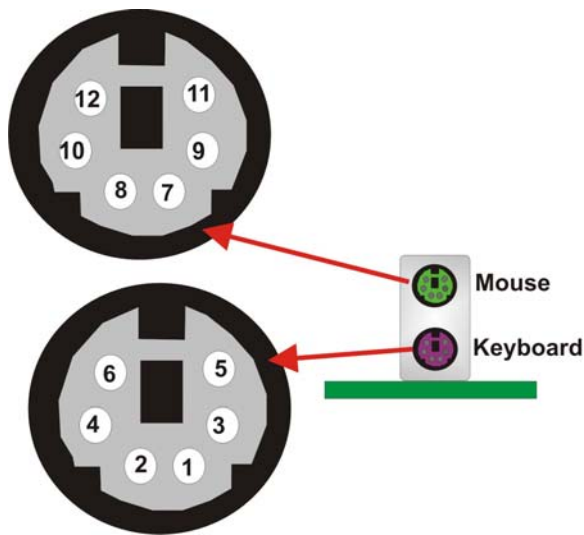

Figure 3-22: PS/2 Connector
- CN Pinouts:** See **Table 3-23** and **Figure 3-22**